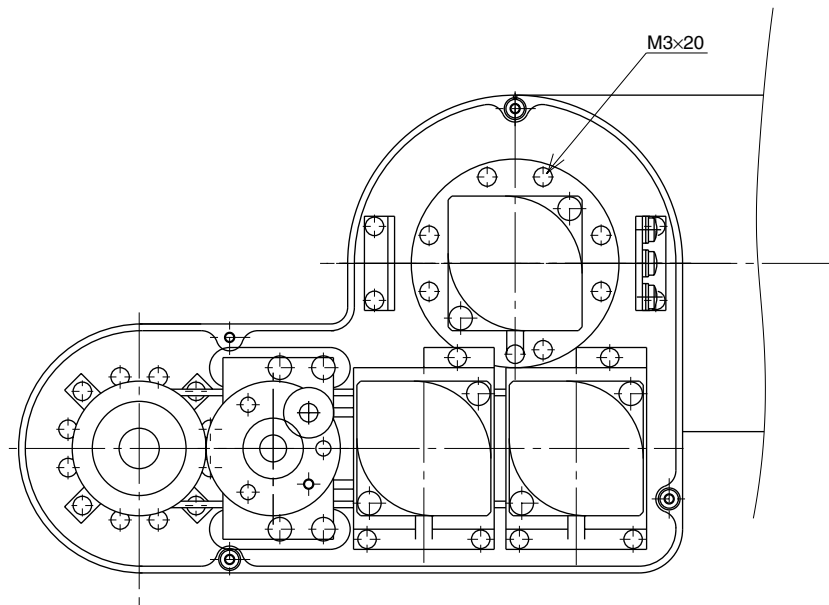

Fig. 5-7
- 6) Remove the Y-axis arm installation bolts (M3×20L, 8 pieces). (See Fig. 5-7.)
- 19) Secure the Y-axis arm to the harmonic drive with the bolts (M3×20L, 8 pieces) you removed earlier. Apply small amounts of "Screw Lock" to the bolts and tighten them uniformly to secure the Y-axis arm. (See Fig. 5-7.)